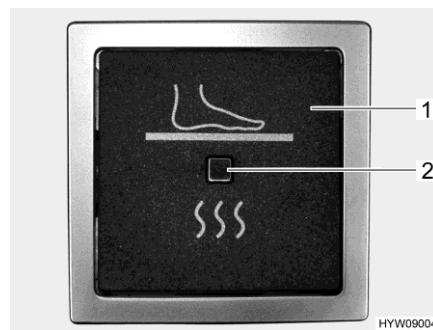

Fig. 136 Rocker switch (electrical floor warming unit)
- ▷ The electrical floor warming unit is switched on and off via a rocker switch (Fig. 136,1). When the floor warming unit is working, the indicator lamp (Fig. 136,2) will be lit red.